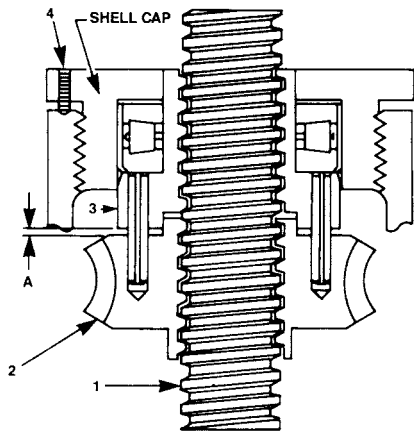

Figure 2-1. Anti-Backlash Nut Adjustment
As shown in Figure 2-1, the worm gear (2) and anti-backlash nut (3) are pinned together with guide pins. The threads in the anti-backlash nut work in opposition to the threads in the worm gear as they engage the threads of the lifting screw (1). Adjustment of backlash is made by running down on the shell cap of the actuator. This forces the anti-backlash nut threads into closer contact, reducing clearance and thus reducing backlash.